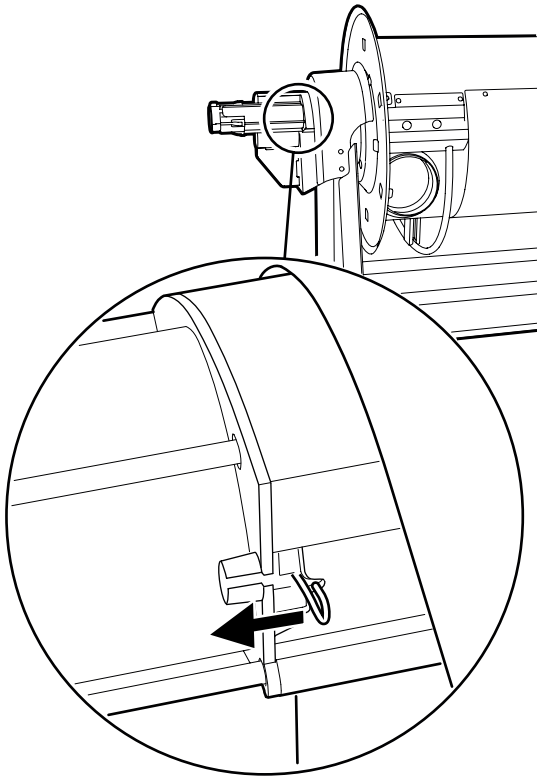

Fig. 5
See Fig. 5.
2. Disconnect the motor, see Fig. 5.